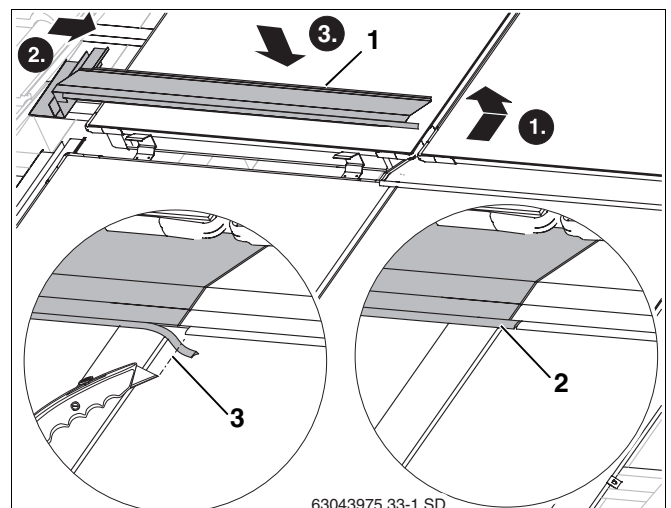

Fig. 52 Laying middle-left facing panel in place
- ▶ Insert upward fold on the left-hand facing panel (Fig. 52, **Item 1**) into the recessed channel on the collector frame, just as was done with the right-hand facing panel.
- ▶ Shorten the rubber lip (Fig. 52, **Item 3**), so that it touches the rubber lip on the right-hand facing panel.
- ▶ Place rubber lip on the left-hand facing panel onto the fold on the right-hand facing panel (Fig. 52, **Item 2**).